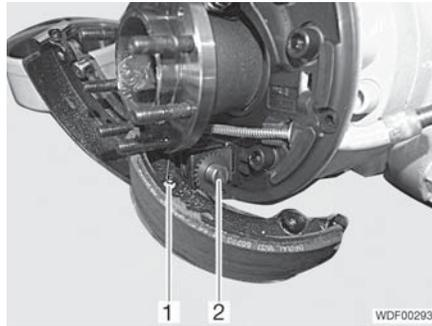

Fig. 263 Lower bearing
- Unhook the spring (Fig. 263,1) on both sides.
- Hook the spring (Fig. 263,1) into the brake shoes on both sides.
- Plug the brake shoes onto pin (Fig. 263,2).